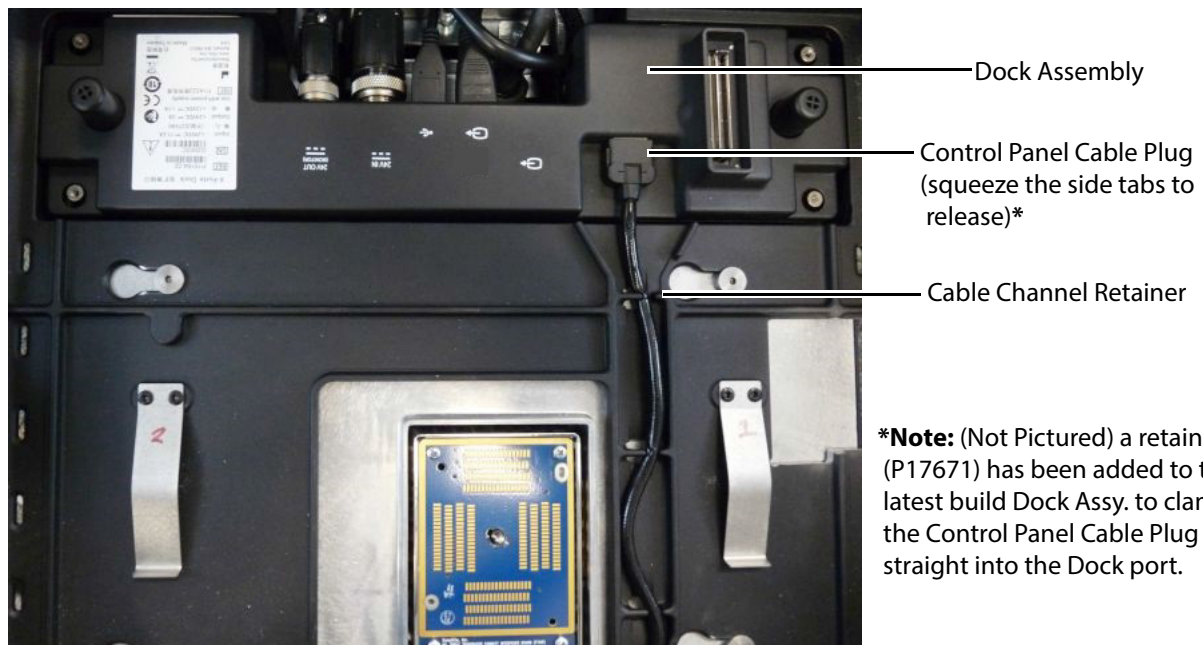
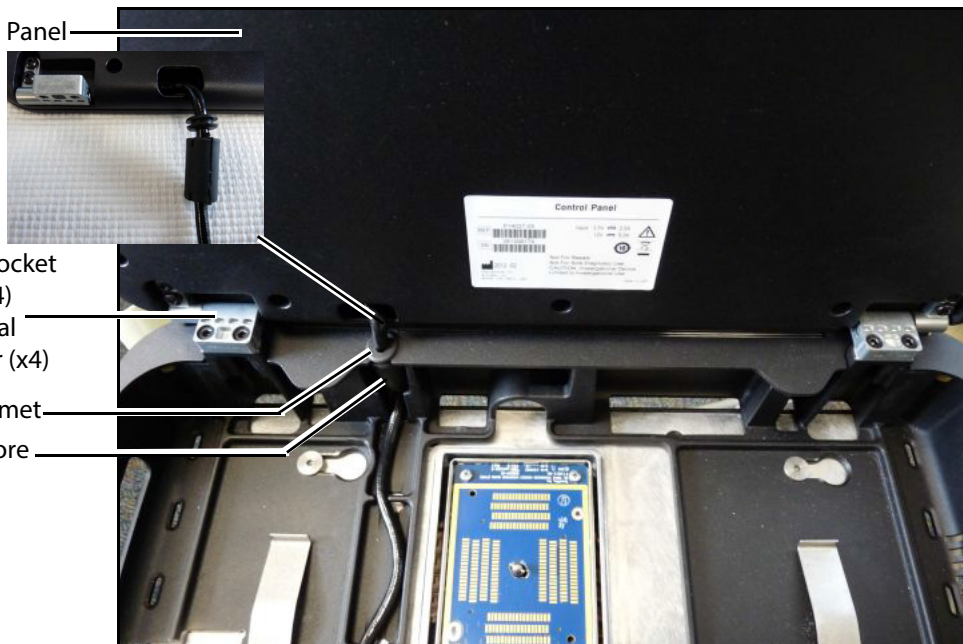
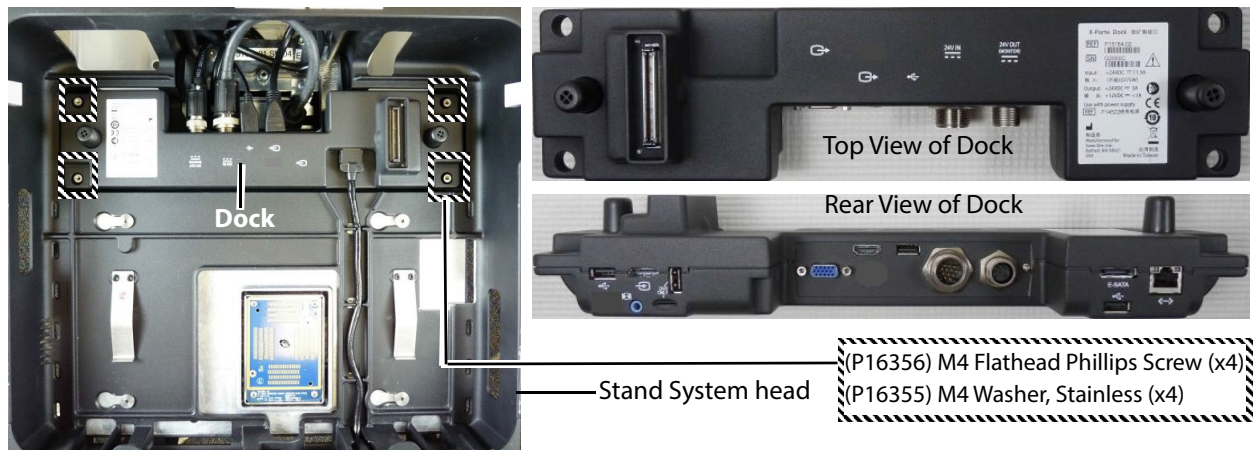

Figure 6.6 Control Panel Cable Plug
Figure 6.7 Control Panel Mount
Figure 6.8 Dock Cabling
- 3 Remove the Control Panel cable connection at the Dock assembly by squeezing both sides of the connector plug and pulling out from the Dock. Refer to Figure 6.6 on page 39
5 At the vertical cable retention, carefully pry out the rubber grommet and the cylindrical ferrite iron core. It may require some of the cable to be fed up from the bottom to loosen the cable. Refer to Figure 6.7 on page 40.
2 Refer to Figure 6.6 on page 39 and Figure 6.7 on page 40.
- 4 Disconnect the Control Panel cable connector from the Dock. Refer to Figure 6.6 on page 39. The new Dock Assembly will have the (P17671) Retainer requiring it to be flipped upward before removing the Control Panel cable. Please refer to Figure A.4 on page 65
- 5 Remove the four M4 flathead Phillips screws (P16356) and the four M4 stainless steel countersunk washers (P16355) from the Dock mounting posts located inside the Stand System head area. Refer to Figure 6.8 on page 41
- 1 Hold the Dock above the four mounting posts referencing Figure 6.8 and Figure 6.6.